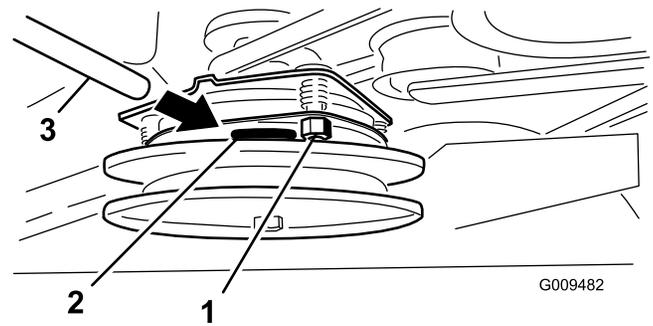

Figure 61
2. If adjustment is needed, then set at .015 inches (0.381 mm) for each of the three adjustment slot positions. Tighten the lock nuts until there is slight binding on the feeler gauge but it can be moved easily within the air gap (Figure 61).